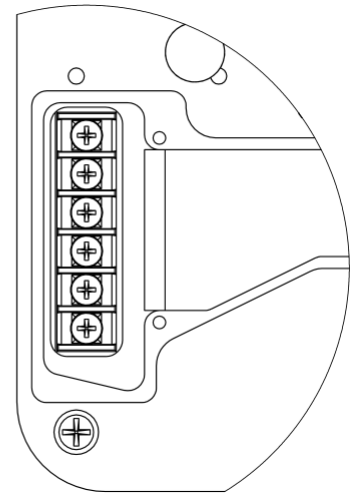

Figure 1. AGPS Wiring
3. Connect the four wires to the terminal block in the back of the station to the connections shown in Figure 1.
4. If there are pedestrian field wires present at the station, route them through the terminal plate and nipple and then connect them to the terminal block in the positions shown in Figure 1.